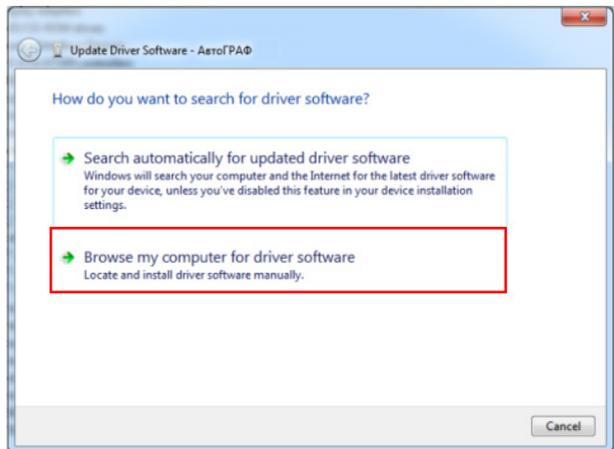

Fig.4. Browse for TKLS-Prog-485 driver.
- launch the driver update wizard and select “Browse my computer for driver software” to search for the driver manually. Select the folder where the driver files was extracted (Fig.4);